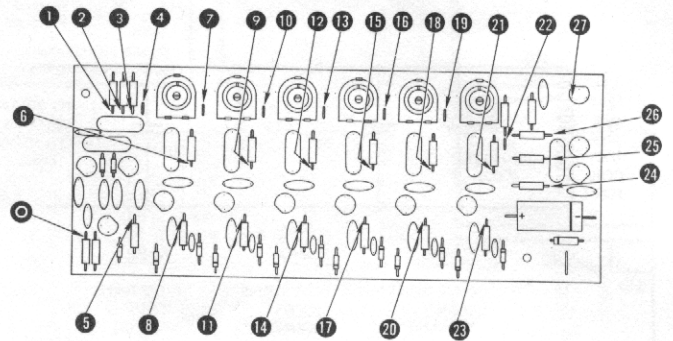

Figure 37. Transmitter Test and Calibration Points
- b. Test points on figure 37 correspond with those on the schematic diagram, figure 23. By using an oscilloscope for signal tracing it is very easy to